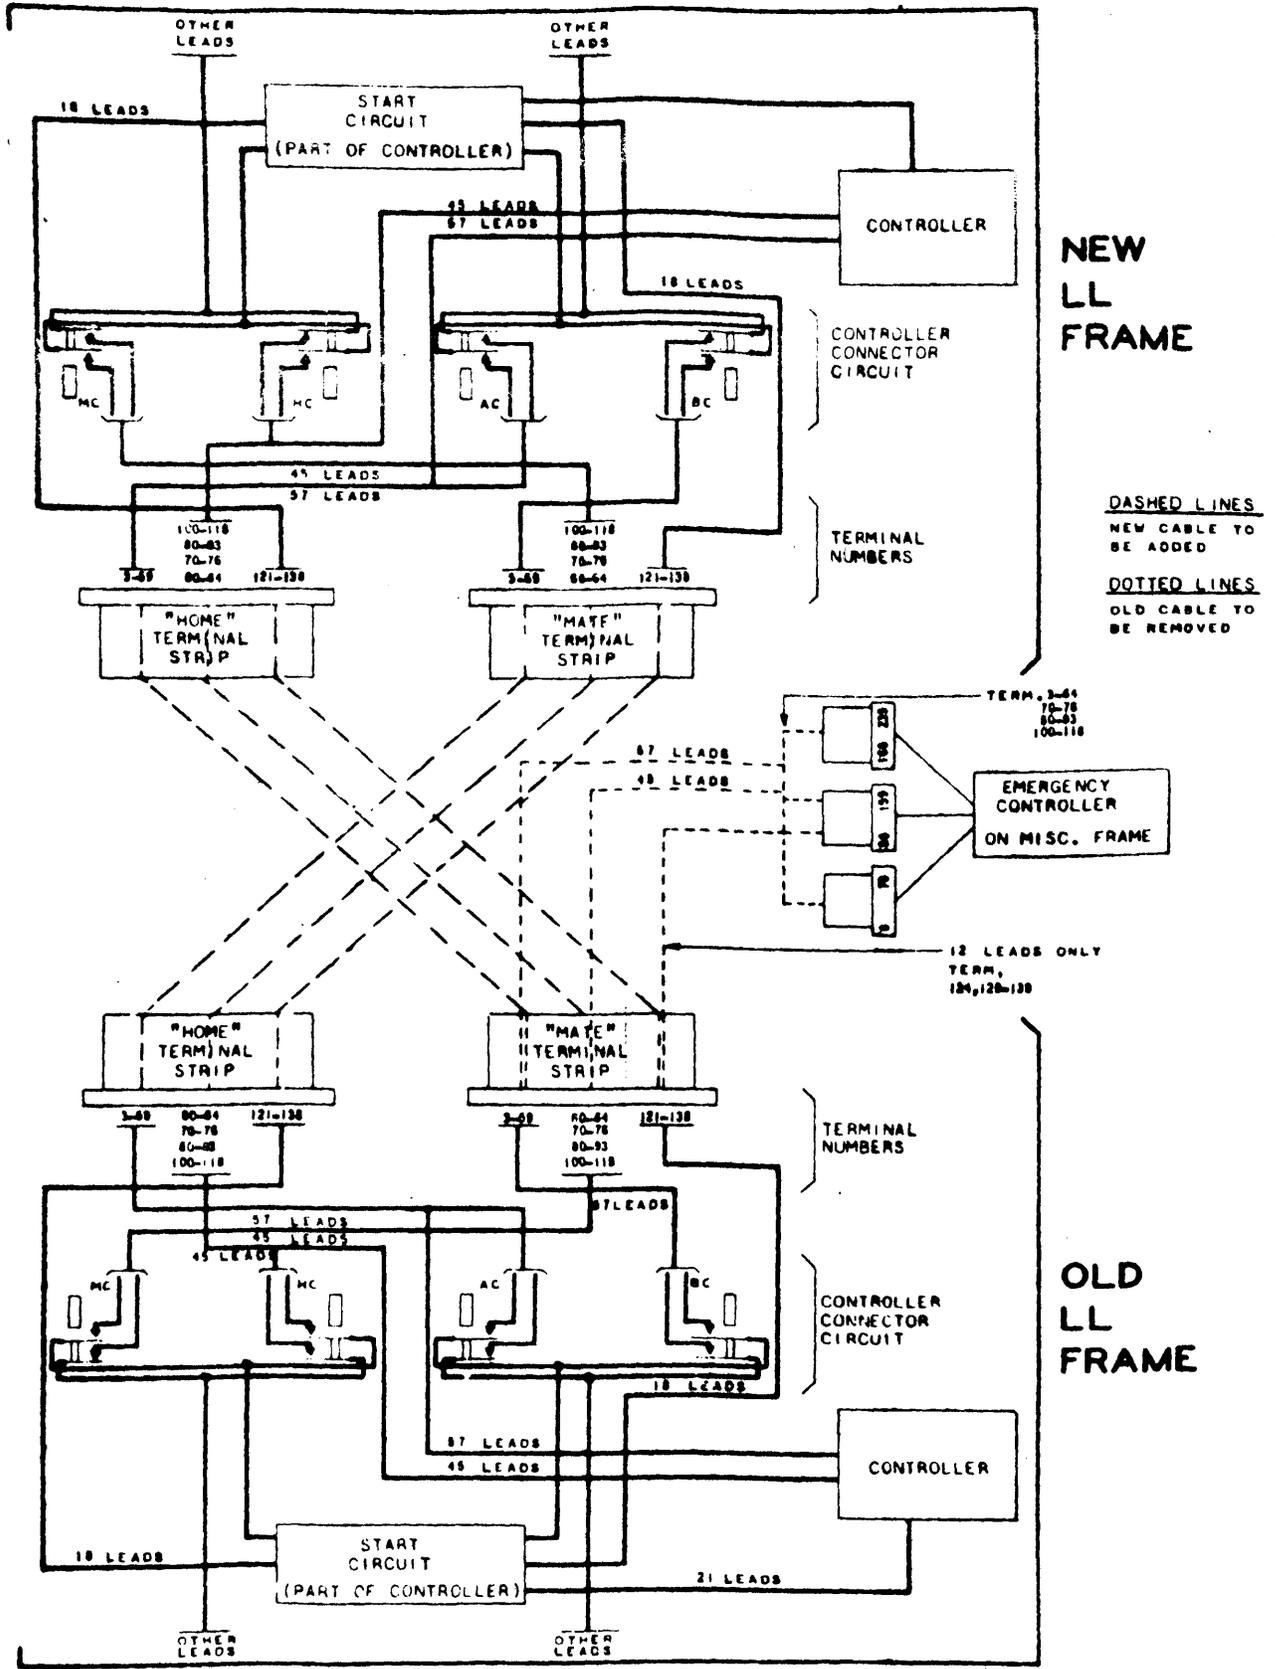

FIG. 1 CABLING ARRANGEMENT OF THE EMERGENCY AND REGULAR LINE LINK CONTROLLER CIRCUITS
7.1 Figure 1, shown on page 2, provides a composite cabling arrangement of an emergency controller, shown with dotted lines and a regular controller of a new LL frame, shown with dashed lines, with an old line link frame.